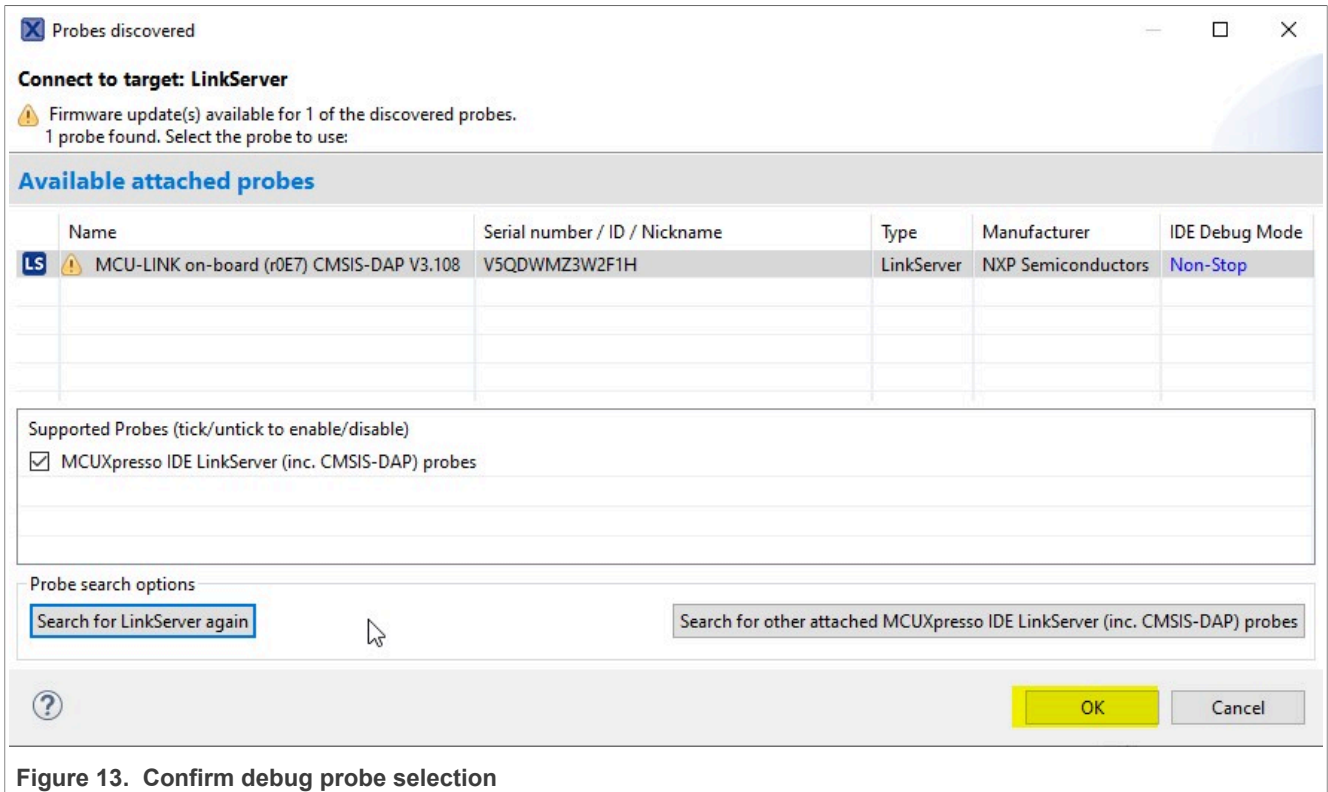

Figure 13. Confirm debug probe selection
9. Click **OK**, see Figure 13.